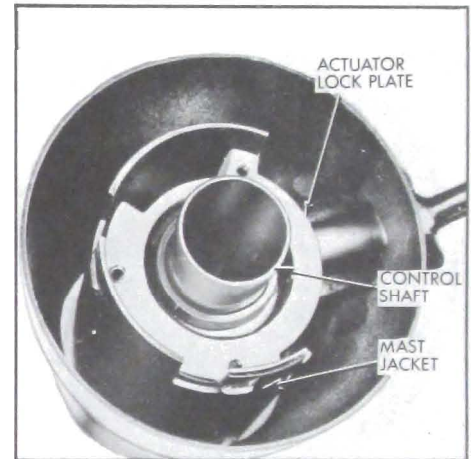

Figure 8-89—Installation of Actuator Lock Plate
14. Install turn signal actuator lockplate over control shaft and inside mast jacket as shown. See Figure 8-89.